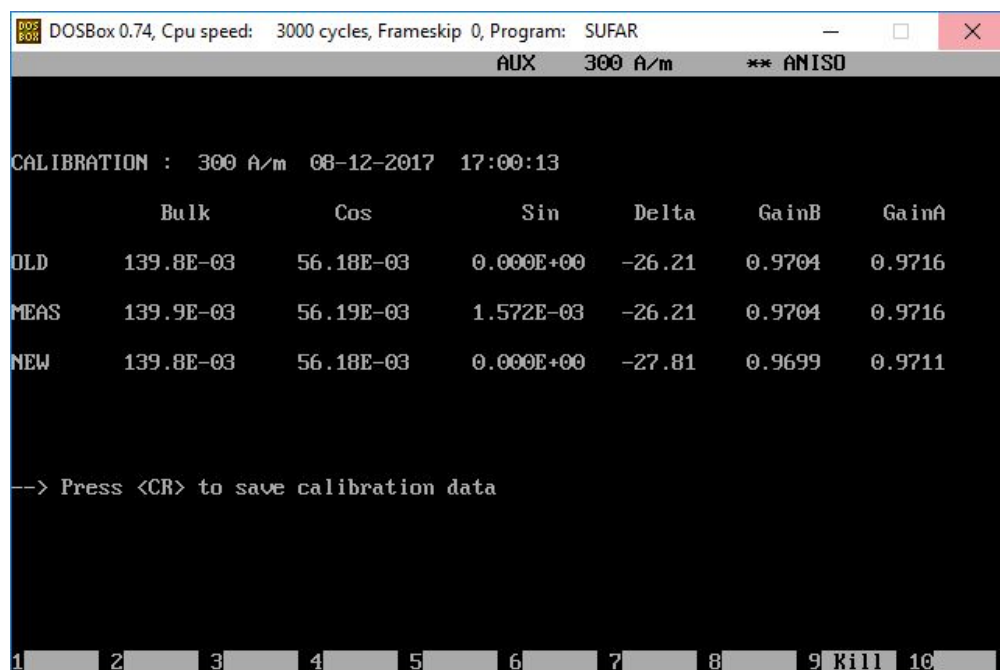

Figure 11 Calibration window when measurement is complete
- a. The sample holder will move down into the coils and calibration measurement will be completed. The Old and New calibration information will be displayed (**Figure 11**).